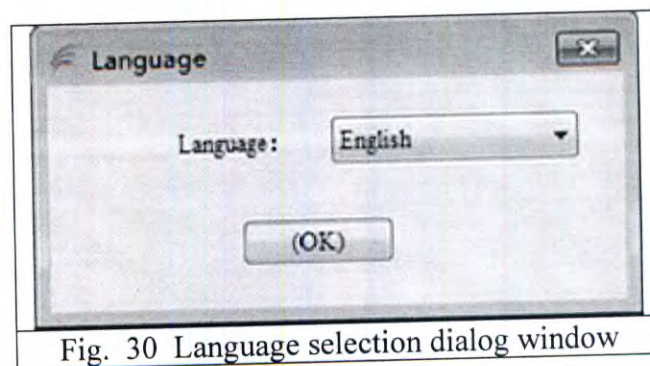

Fig. 30 Language selection dialog window
1) The language shall be set up during first logging in the system as shown in Figure 30. Please choose language and press OK.